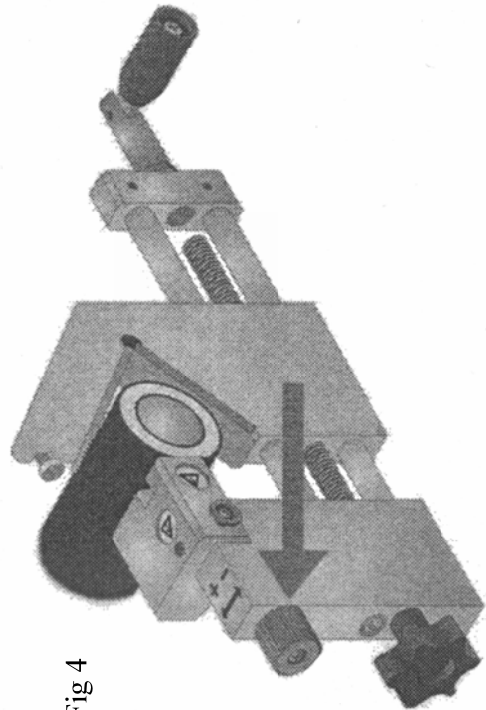

Fig 4
- 3.1.7 When the required screen termination position is reached, rotate the button marked by the blue arrow to the FRONT position, as shown in Fig 4 of GR2D 6.28.3. to stop the tool moving down the cable. Continue to rotate the tool until a clean cut screen edge is produced. Open the jaws and remove the tool on completion.